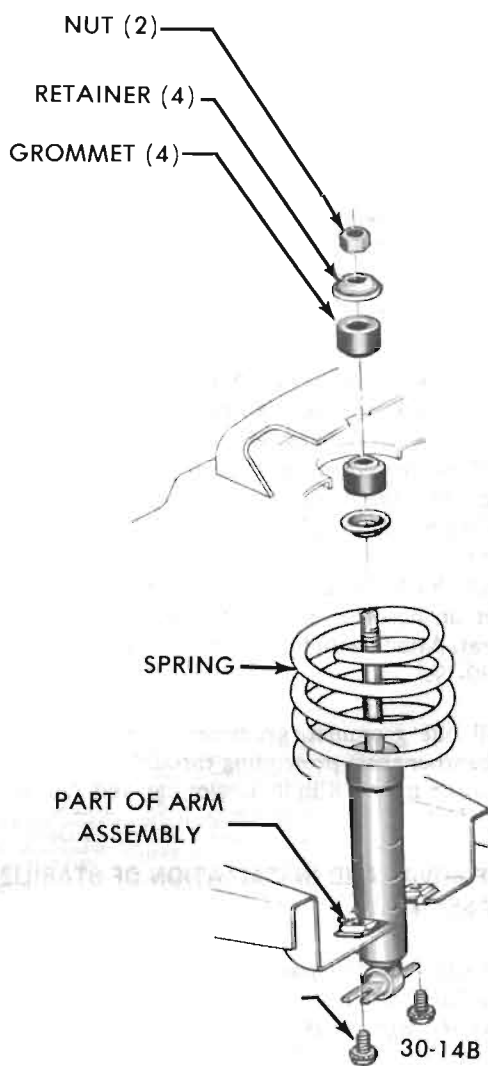

Figure 30-17 - Shock Absorber Installation
9. Lower jack from beneath lower control arm. Connect shock absorber. See Figure 30-17.
1. Remove upper shock absorber attaching nut, grommet retainers, and grommets. See Figure 30-17.
2. Extend shock, install one grommet retainer, and one grommet on absorber and slide through hole in lower spring seat. Attach with two screws torqued to 18 lb.ft. See Figure 30-17.